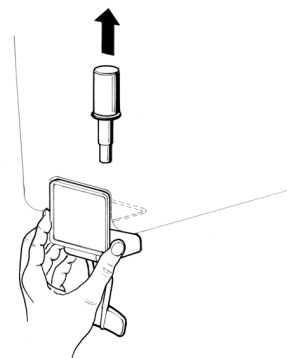

figure 5
- 6 Gravity faucet:** extract the piston and then remove the dispensing handle (see figure 5).